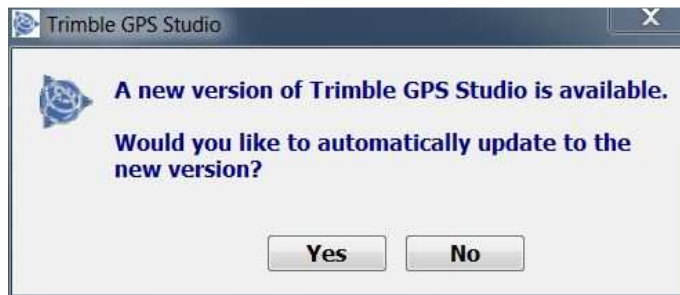

Fig. 24 Testing GPS: Answer “NO”
- If this windows appears, asking to update the software (Figure 24) answer **“NO”**.